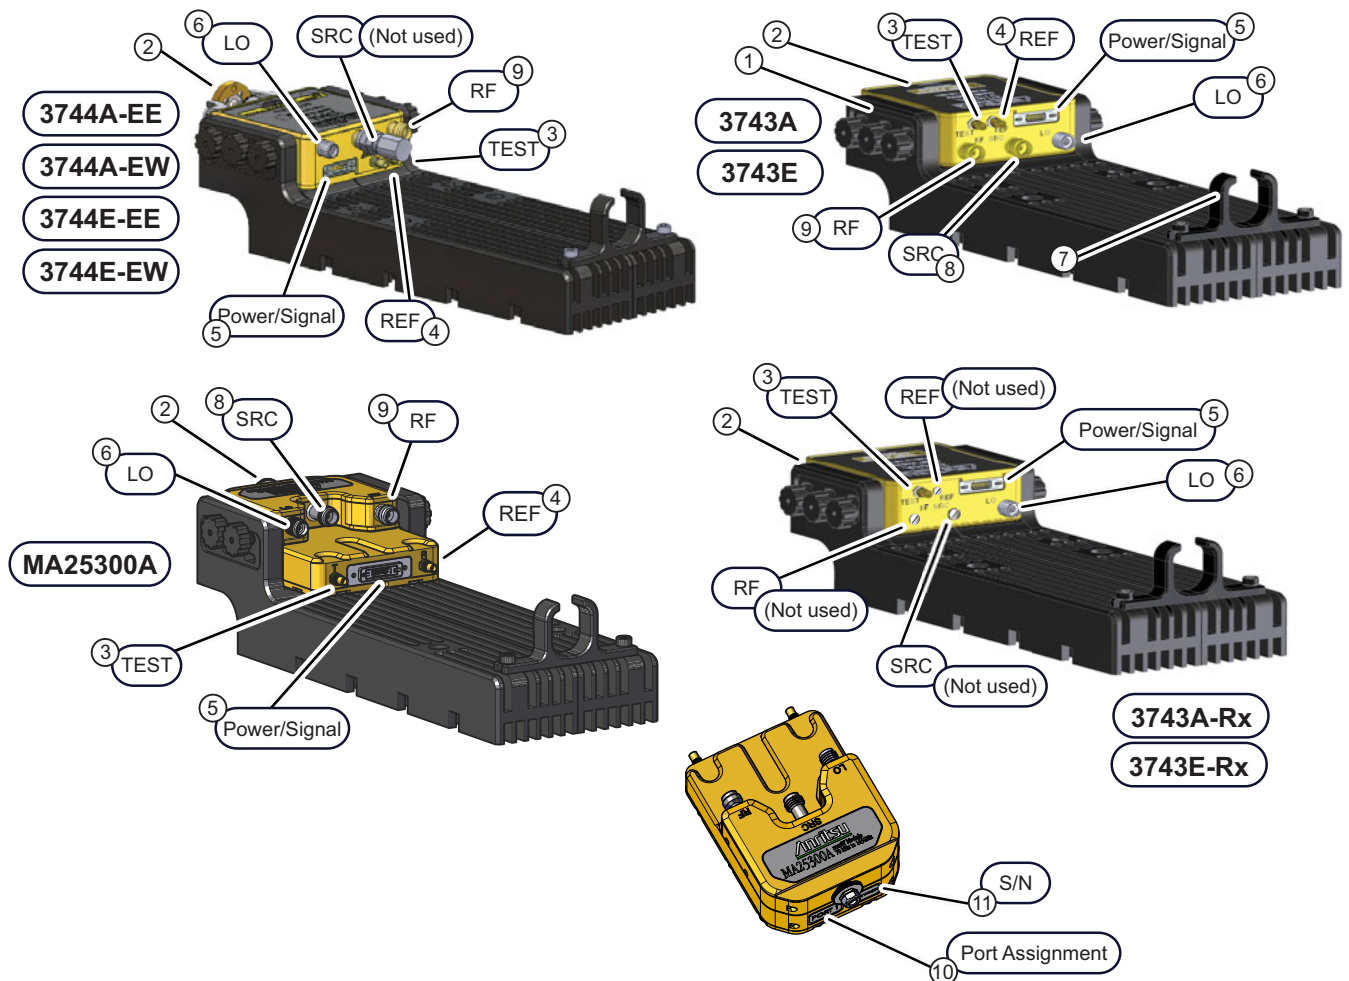

Figure 2-5. Millimeter-Wave Module Connections
Connect the 3739B/C Broadband Test Set cables to the modules as shown below, observing the correct torque limits for each connector. See Figure 2-5 and Table 2-4.
Each module (except the 3744A-Rx and 3744E-Rx) is characterized for absolute power for a specific VNA Serial Number and VNA Test Port as designated on the module port assignment label (see item 10 in Figure 2-5 - Port Designation). Ensure the module matches the correct VNA and Test Set port.